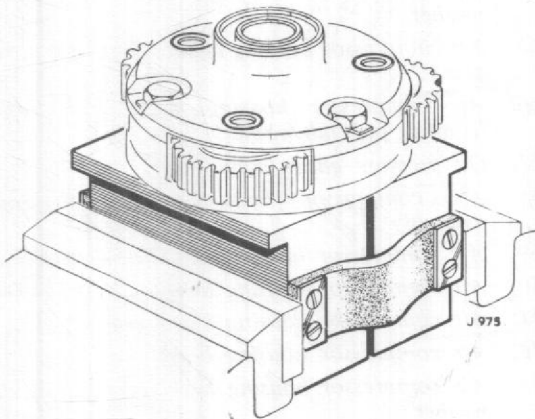

Fig. 2. Vice block T.74821, with planet gear assembly installed.
1. Position the planet gear assembly in vice block T.74821, Fig. 2; turn down the tabs of the locking washers and remove the three planet gear carrier cover retaining bolts. Remove the